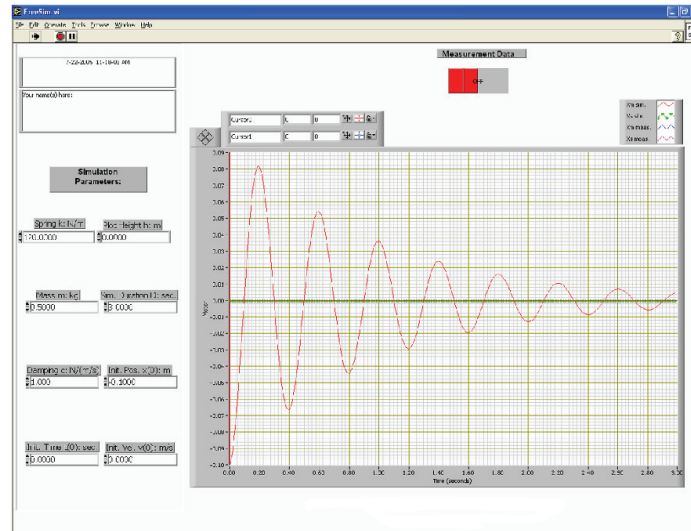

Figure 1.8: The *FreeSim* program.
2. *FreeSim* (Figure 1.8) for measuring the data and simulation of the same;